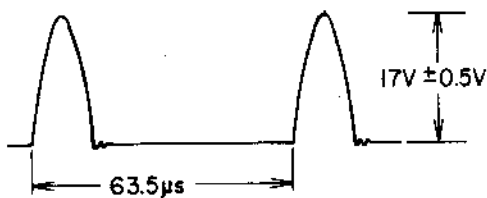

Fig. 2-4 Horizontal Deflection Waveforms
- c) Connect an oscilloscope to Horizontal Yoke Terminal of Deflection P.C. Board and confirm that there is a waveform as shown in Fig. 2-4.